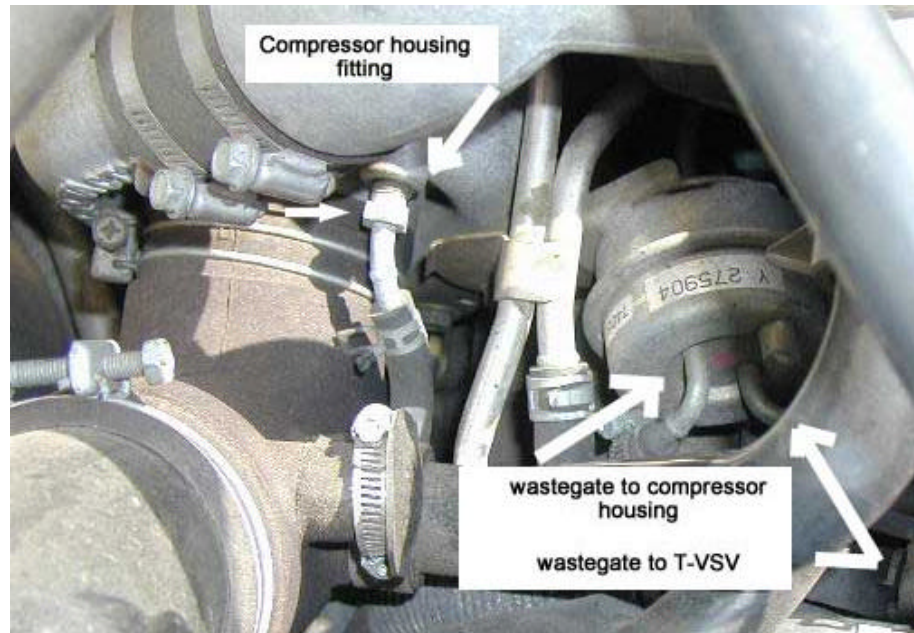

Figure 1
2. Locate the hose connecting the turbocharger compressor housing to the wastegate. This hose is approximately 3 inches long and attaches to the compressor housing just behind the turbo outlet house (fig. 1). Once located, remove this hose from both the compressor housing and the wastegate. Store removed parts in a safe location so that you may return your car to stock configuration if you ever need to.